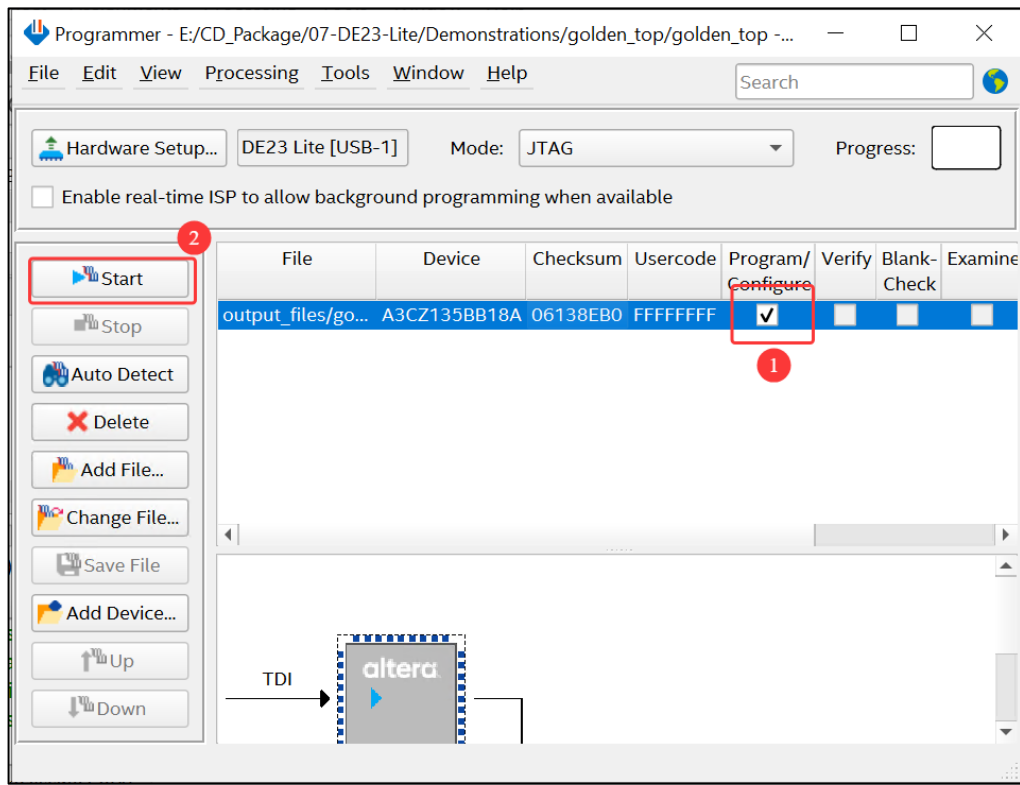
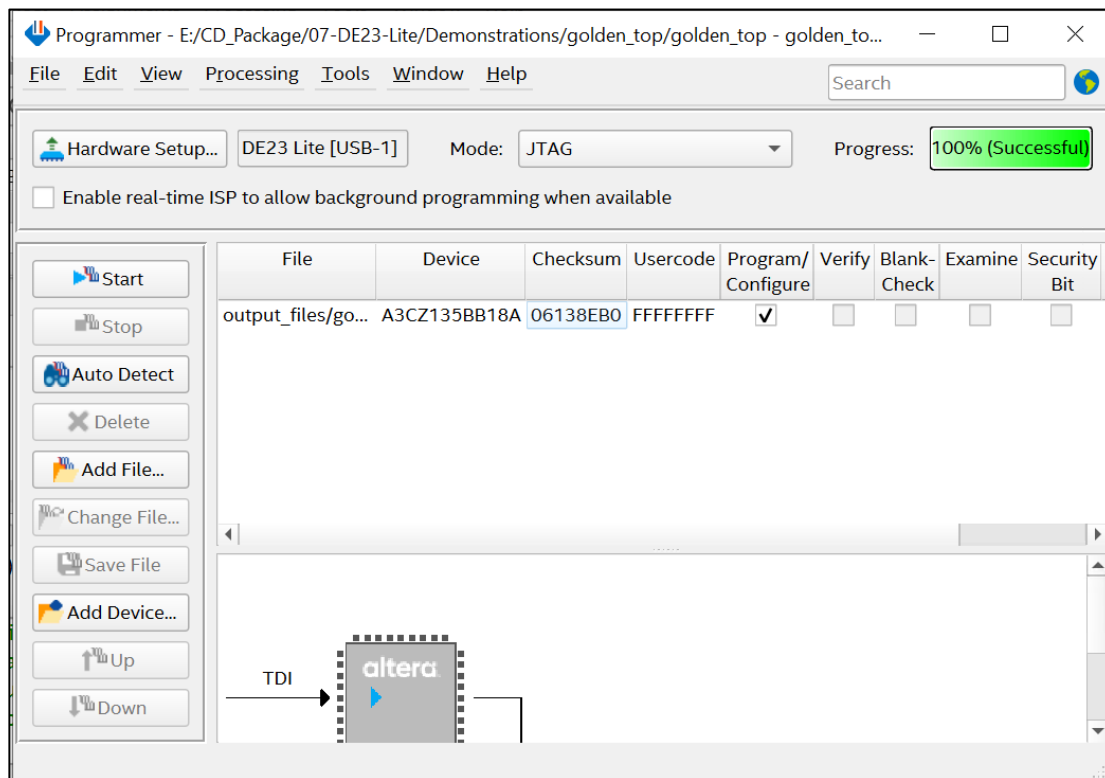

Figure 3-8 Program .sof file into the FPGA device
Figure 3-9 Program .sof file successfully
7. Click the “Program/Configure” checkbox and click “Start” button to download the .sof file into the FPGA device, as shown in **Figure 3-8** and **Figure 3-9**.